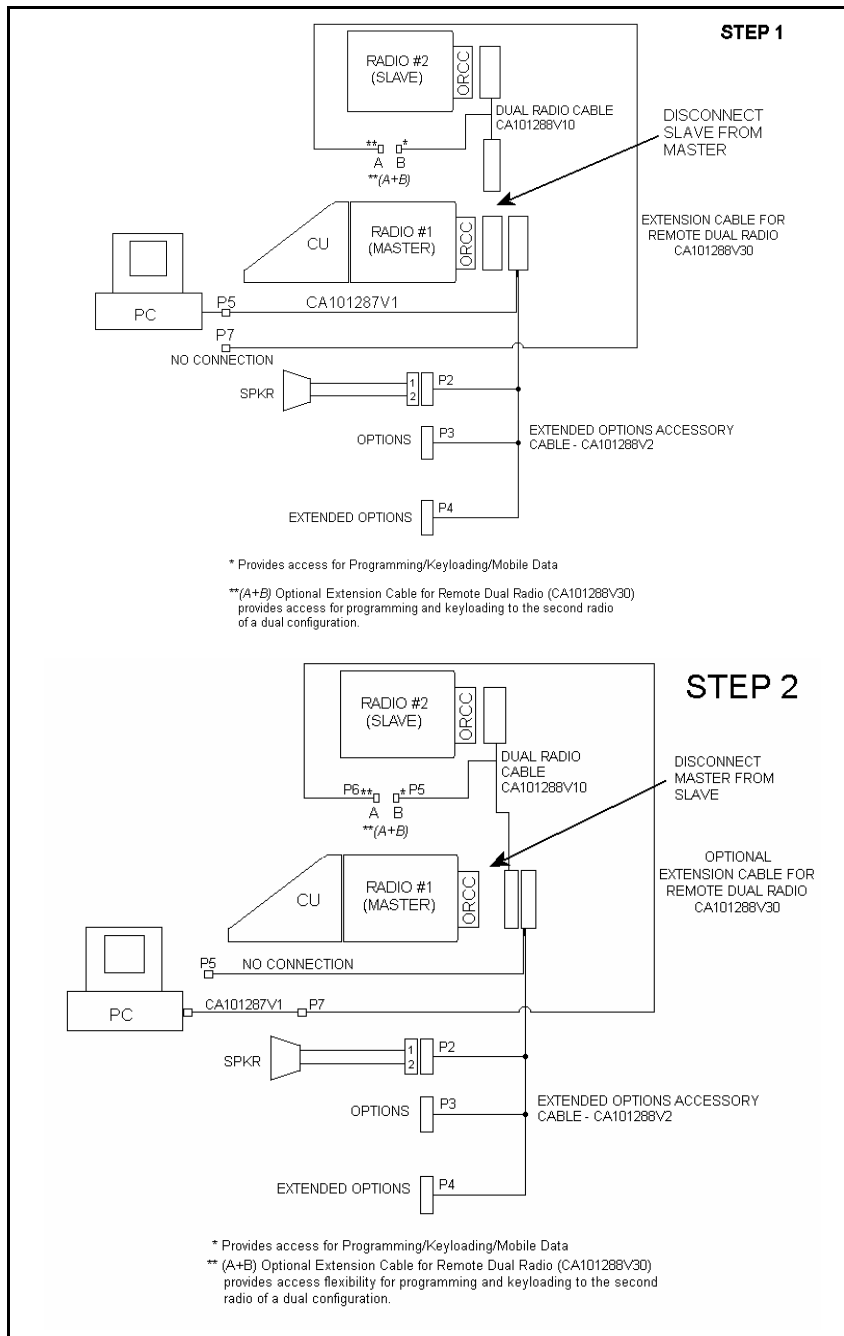

Figure 11-3: Dual Radio Configuration – Front/Remote Mount PC Programming Procedure
1. Configure the M7100^{IP} Master Radio per the ProGrammer setup shown in Figure 11-3, STEP 1, with the Slave Radio disconnected. Program the Master Radio with the control configurations per the Pre-Installation Programming Procedure with ProGrammer – Dual Radio Units and adjust as necessary for the desired application.
2. Now configure the Slave Radio with ProGrammer as shown in Figure 11-3, STEP 2. The Master Radio should now be disconnected with the Slave Radio connected as shown. Program the Slave Radio with the configuration per the Pre-Installation Programming Procedure with ProGrammer – Dual Radio Units and adjust as needed for the desired application.